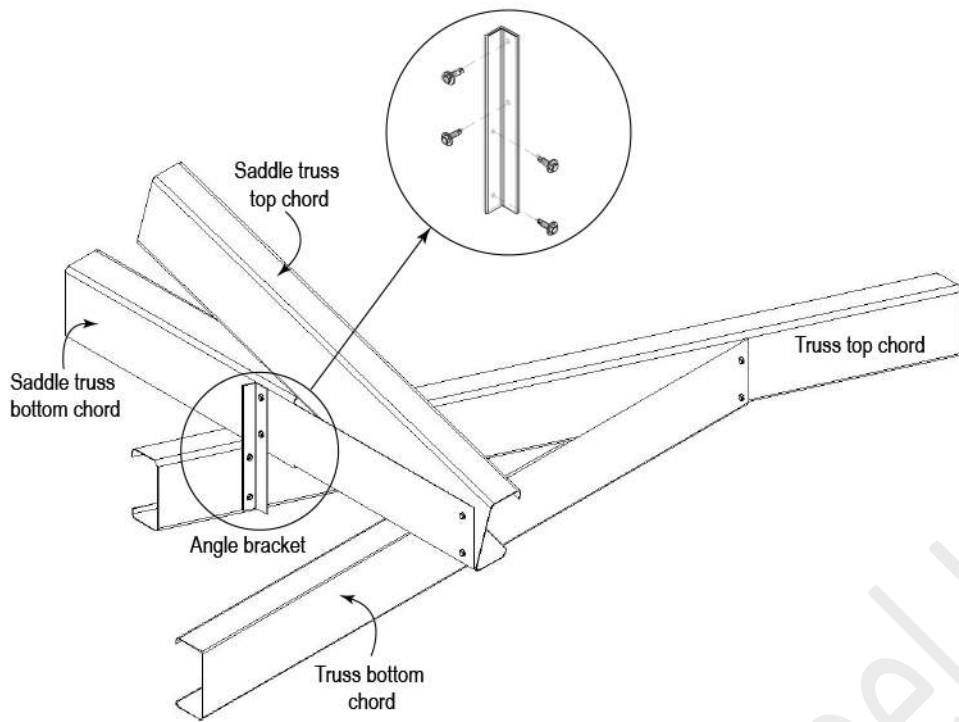

Figure 7.29c Saddle truss connection
STEP 5: Fix the bottom chord of the saddle trusses to the top chord of the underlying truss with an angle bracket as shown in Fig. 7.29c.